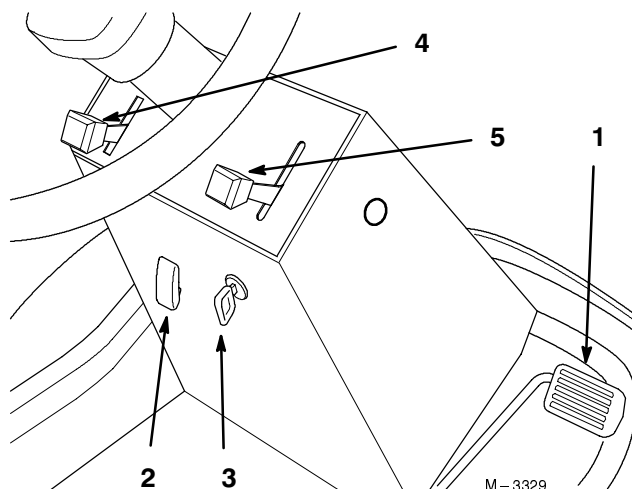

Figure 8
1. Move the throttle lever to "SLOW" (Fig. 8).
2. Turn the ignition key to "OFF" (Fig. 8).